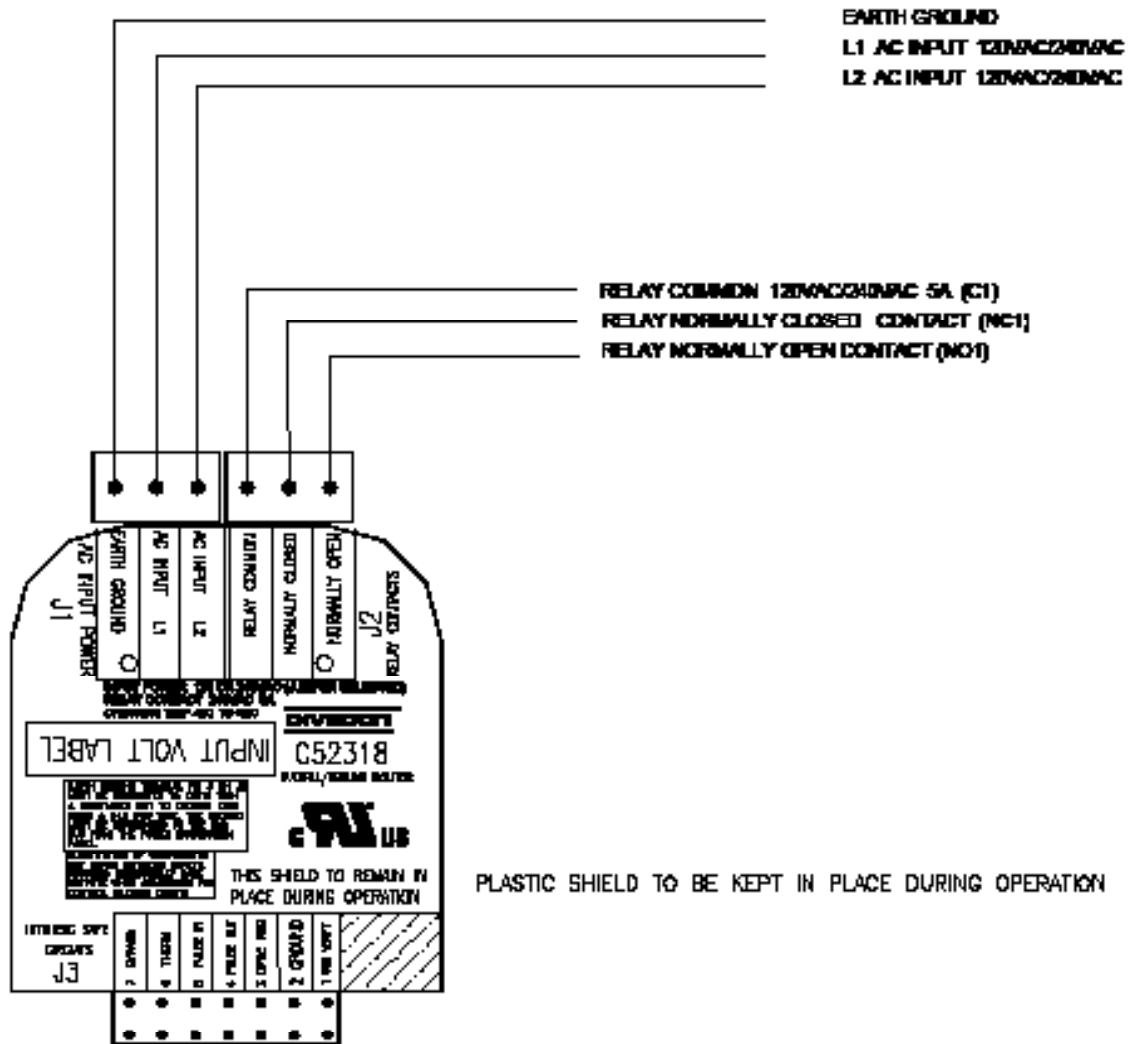

FIGURE 3 - Power Wiring
Three terminals are provided for the control channel output on the monitor. These are C1 (COMMON 1), NC1 (Normally Closed 1), and NO1 (Normally Open 1), Form C type contacts. The proper control signal source must be wired to these terminals. It is suggested that the control signal source be wired into the C1 (COMMON 1) terminal, as it is the fused control terminal. The wire going to the controlled device should then be connected to the NO1 (or NC1 if applicable) contact of the terminal strip. See notes for Figure 3 concerning contacts C1, NC1, & NO1.
The monitor must be wired according to Figure 3.
- Step 1** Before applying AC line power to the 8130 Series Rack Monitor, perform a visual inspection of the power and control wiring according to Figure 3.